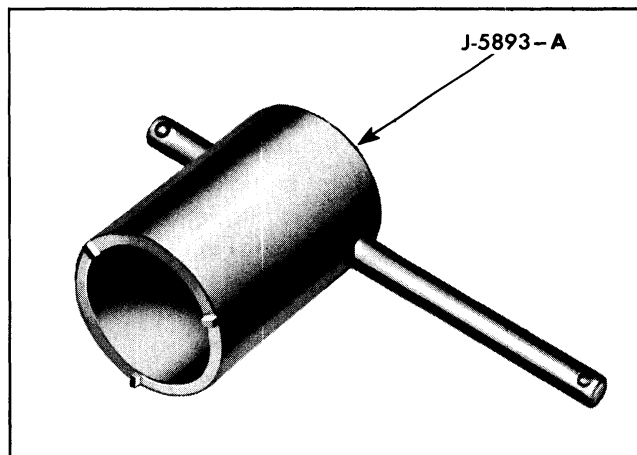

Fig. 11-53 Ignition Switch Ferrule Spanner
2. Remove ignition switch ferrule by unscrewing with special spanner J-5893-A (Fig. 11-53).